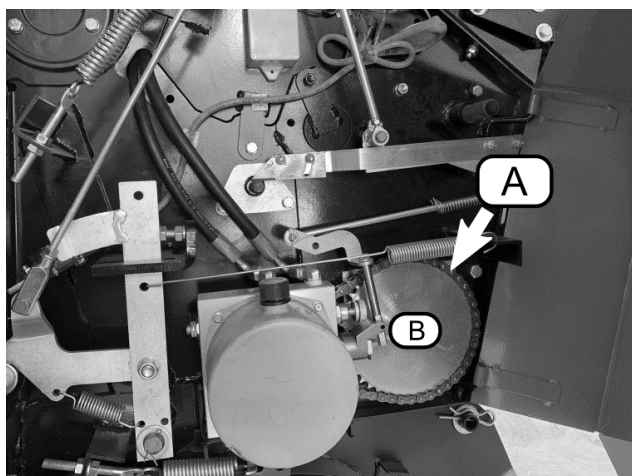

Figure 39 Right side of baler
Tension of the hydraulic power pack drive chain (Figure 39, A) is adjusted by moving the position of the power pack with respect to the drive sprocket (B). Optimal tension will result in **approximately 3/16 of an inch (5mm) of deflection**.